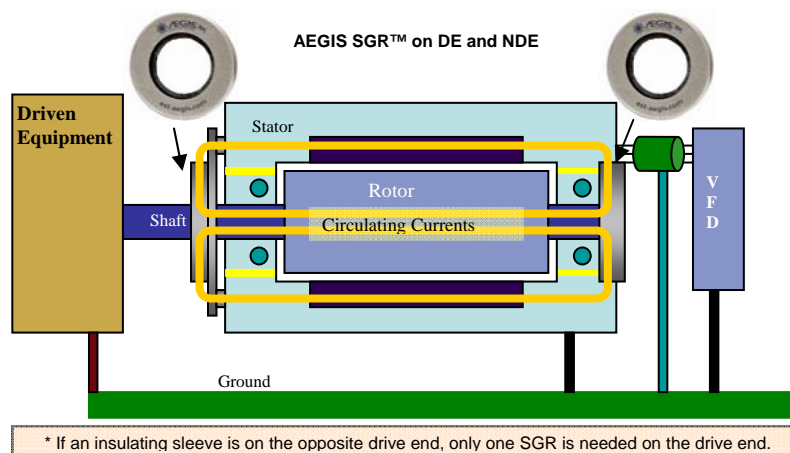

Figure 2
- b. Install SGRs on the each end of the motor, i.e., DE and NDE. Please see the Figure 2 for illustration. By installing two SGRs, the bearing currents will be diverted to the SGRs instead of bearings.